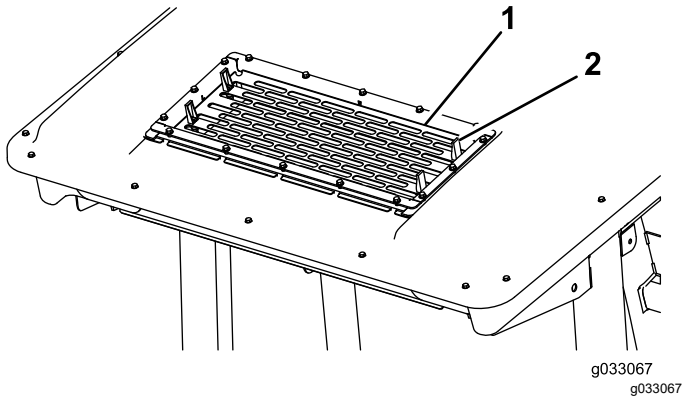

Figure 55
2. Lift the 4 tabs on the air-conditioning screen (Figure 55) and remove the screen from the top of the cab.